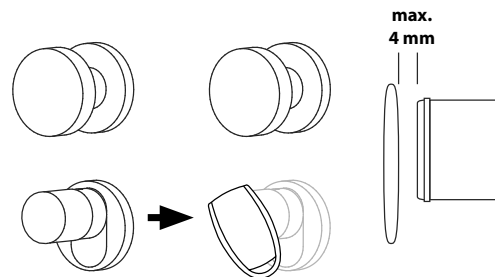

Fig. 1
- 1 Hold the ENTRY 7710 RFID transponder in front of the outside knob of your cylinder at a maximum distance of 4 mm (Fig. 1).